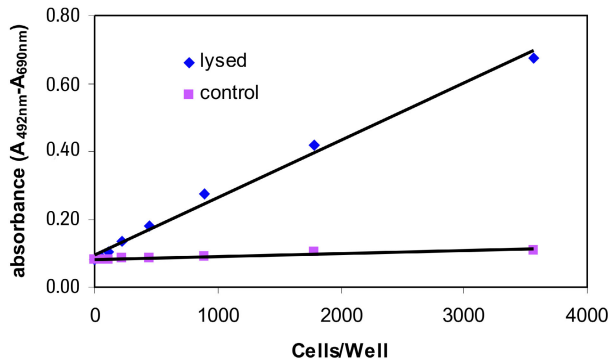

Fig. 2A: 384-well plate
**Results** Fig 2A and 2B (in section 2.2) show that the number of cells in the lysed cell control is proportional to the LDH signal intensity.